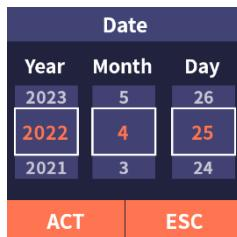

Figure 4.2
(1) Click "Date" to open the date setting interface (as shown in Figure 4.2), then scroll up and down to set the correct date. Click "ACT" to save and exit, or click "ESC" to exit without saving.